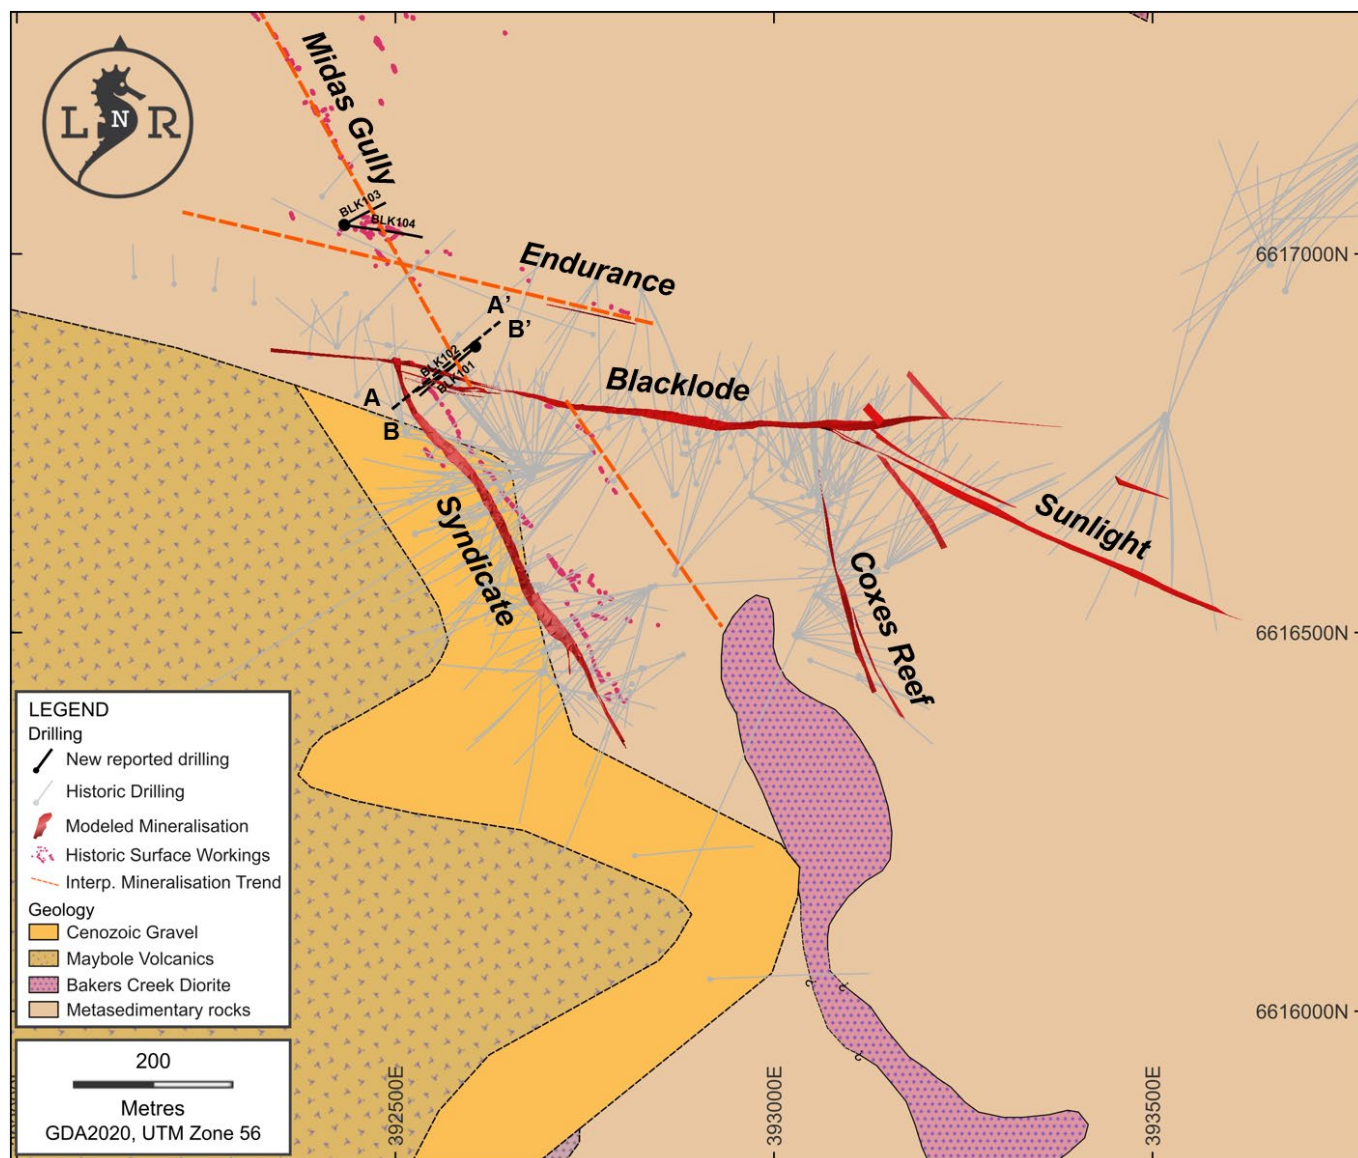

Figure 2 Blacklode diamond drill hole location plan with named mineral systems
- Target the confluence of the Blacklode and Endurance mineralised structures with the Syndicate and Midas Gully splays (Figure 2).
In Figure 2, recent drill holes are displayed as thick black traces, previous Larvotto and historic drill holes are displayed as thin grey traces. The modelled mineralisation sliced to 1600mRL is shown as a red line in order to show the intercept points of drill holes. The interpreted mineralisation trends, which will be the focus of future drilling programs are noted as dashed orange lines. Note, hole names are labelled along the projection of the drill trace of holes for better clarity. The relative position of the cross-sections are shown as dashed traces in plan view (A-A' and B-B').